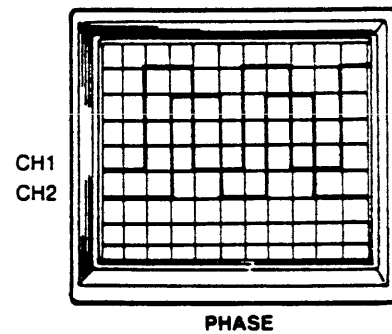

Figure 3-6.2C
13. Load film and turn the Film Speed Control clockwise until the Glass Flat just opens. The Channel 1 waveform should lead the Channel 2 waveform by $90^\circ \pm 15^\circ$ (Figure 3-6.2C)